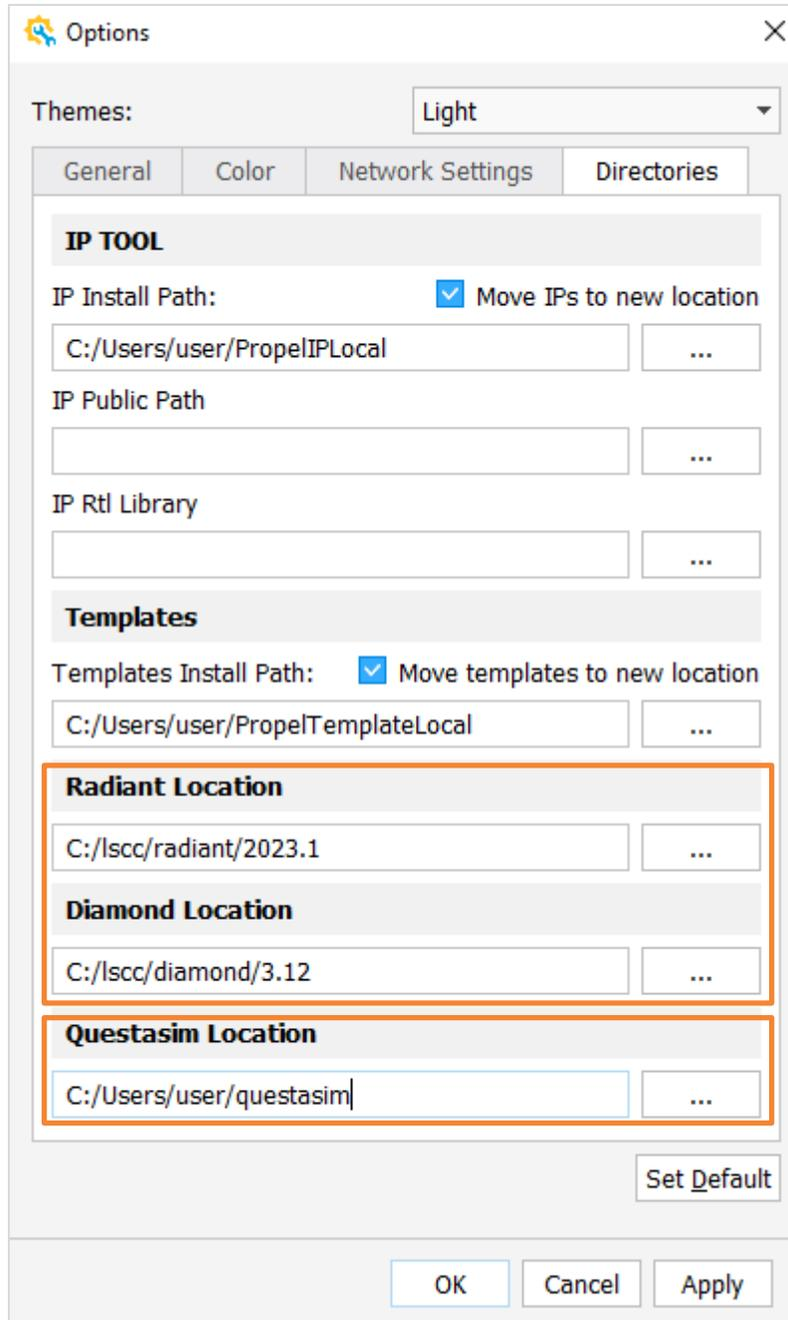

Figure 2.112. Builder Options Wizard – Radiant/Diamond Location and Questasim Location
- Or, before launching simulation, you can change Simulator to Questasim by clicking **Design > Options** from the Builder Menu bar. The Builder Options Wizard opens (Figure 2.112). Click **Directories** to set a desired Questasim Location.